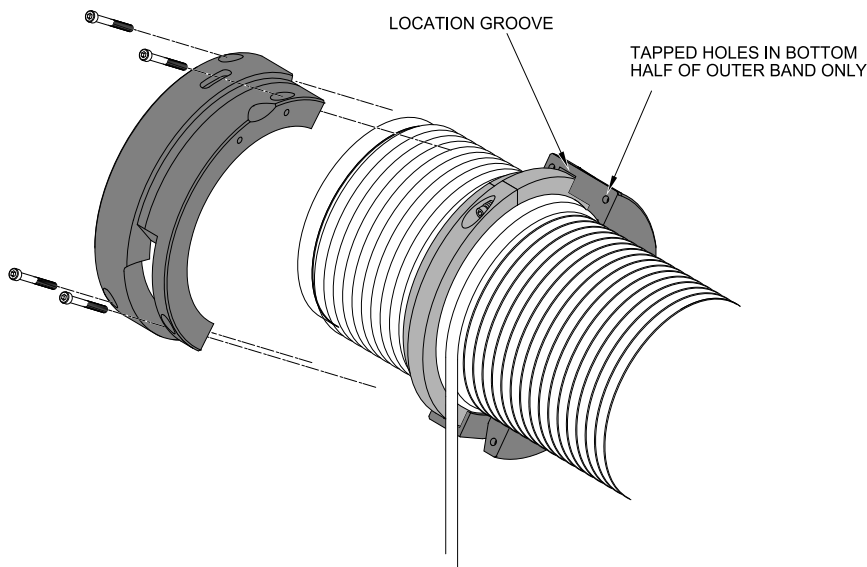

Figure 43 – Fitting Rope Guide Outer Band
- Fit the bottom half of the outer band (tapped joint holes) over the inner band and rotate until it is on the underside of the barrel ensuring that the slot collects the rope which leaves the barrel (see Figure 43).